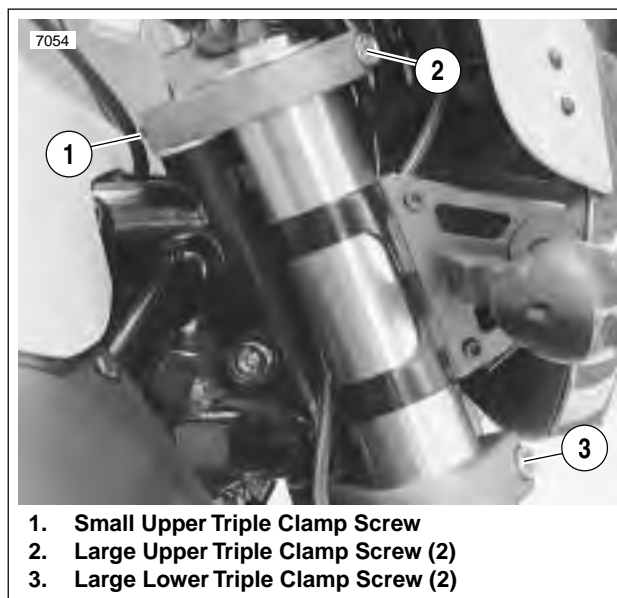

Figure 2-64. Front Fork Fasteners
2. See Figure 2-64. Spread LOCTITE ANTI-SEIZE on the last three threads of all five triple clamp pinch screws. Loosely install triple clamp fasteners. If removed, small screw (1) installs at rear of upper triple clamp.